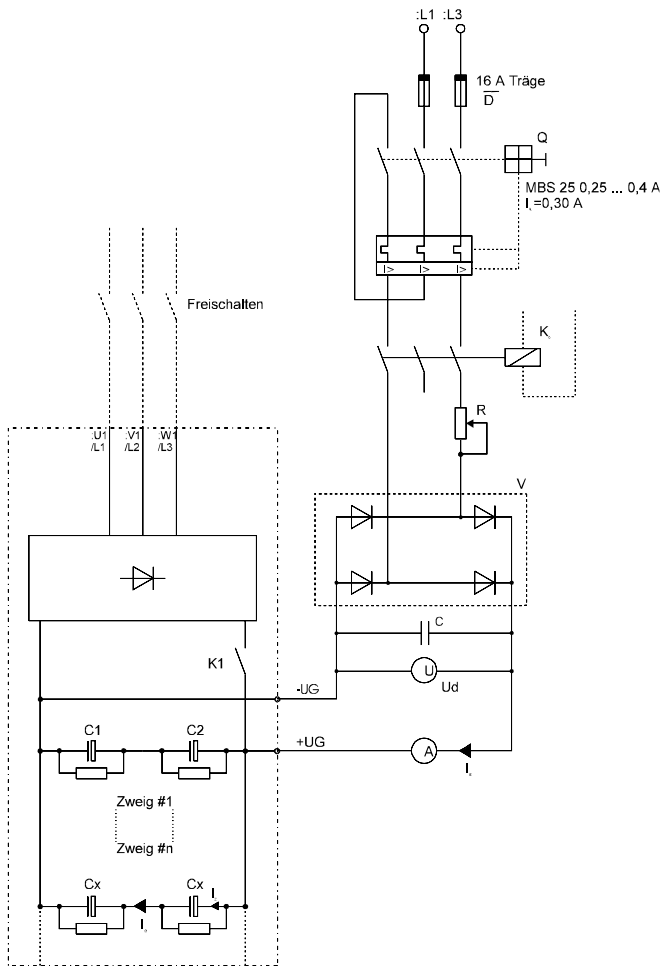

Fig. 54: Circuit for reforming link capacitors
- 2. Construct the circuit according to Fig. 54 and set R to maximum resistance. Switch on Q and operate K₀